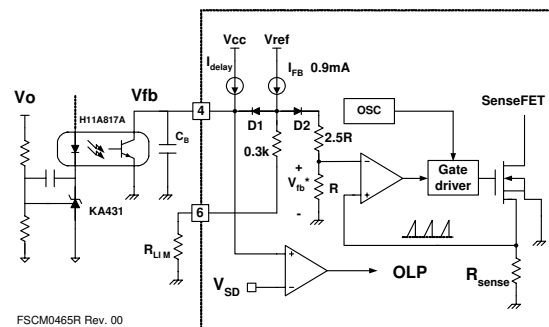

Figure 18. Pulse Width Modulation (PWM) Circuit
2. Feedback Control: The FSCM0465R employs current mode control, as shown in Figure 18. An optocoupler (such as the H11A817A) and a shunt regulator (such as the KA431) are typically used to implement the feedback network. Comparing the feedback voltage with the voltage across the R_{sense} resistor makes it possible to control the switching duty cycle. When the reference pin voltage of the KA431 exceeds the internal reference voltage of 2.5V, the H11A817A LED current increases, pulling down the feedback voltage and reducing the duty cycle. This event typically happens when the input voltage is increased or the output load is decreased.
2.1 Pulse-by-pulse Current Limit: Because current mode control is employed, the peak current through the SenseFET is determined by the inverting input of the PWM comparator (V_{fb}^*) as shown in Figure 18. When the current through the opto-transistor is zero and the current limit pin (#5) is left floating, the feedback current source (I_{FB}) of 0.9mA flows only through the internal resistor ($R + 2.5R = 2.8k$). In this case, the cathode voltage of diode D2 and the peak drain current have maximum values of 2.5V and 2.5A, respectively. The pulse-by-pulse current limit can be adjusted using a resistor to GND on the current limit pin (#5). The current limit level using an external resistor (R_{LIM}) is given by: